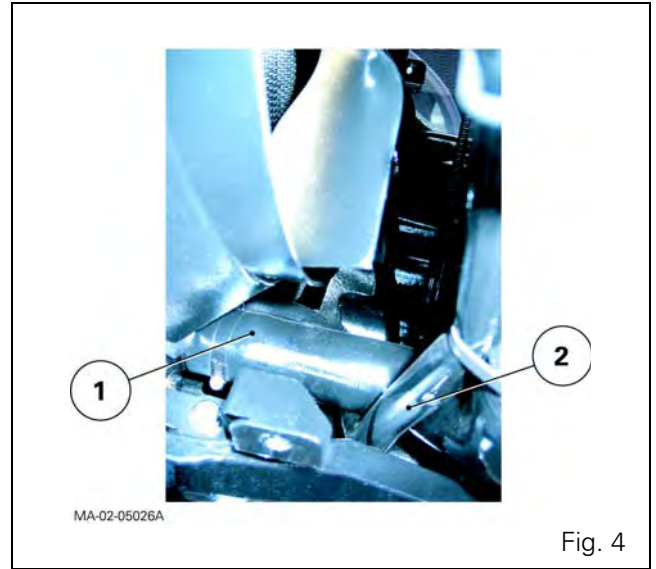

Fig. 4
9. Disconnect the lower hose (1) and the hose (2) linking the expansion tank to the base of the radiator (Fig. 4).